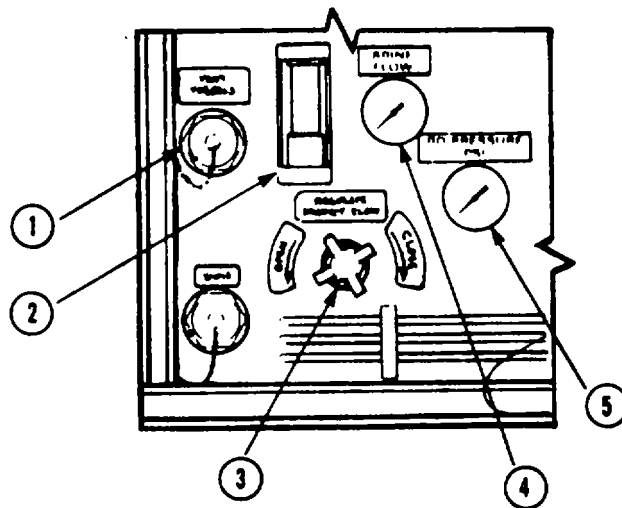

Figure 2-67. R.O. Pressure and Product Water Flow Gages
s. Check that the REGULATE PRODUCT flow valve (3, fig. 2-67) is fully open.